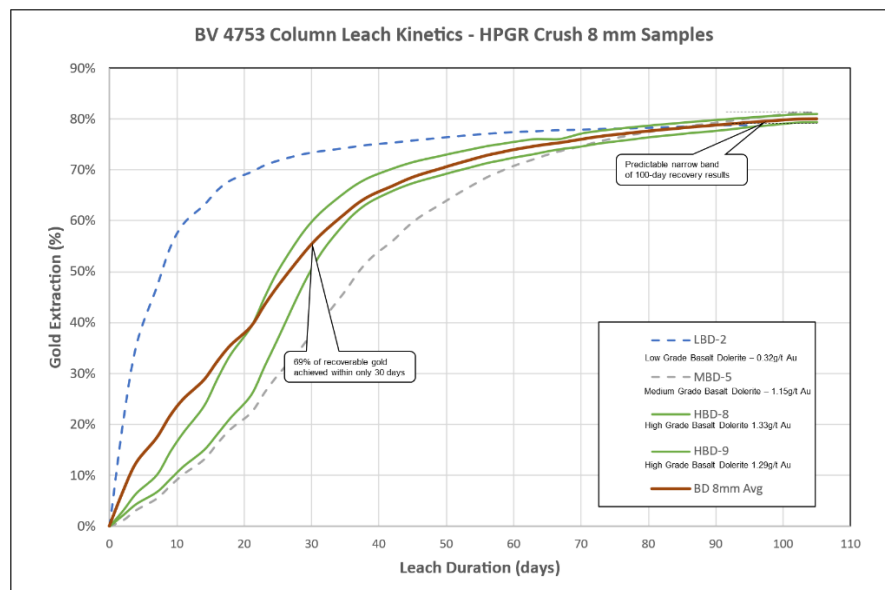

Figure 1 – Column Leach Recovery Test Curves 8mm HPGR – strong leach kinetics – a predictable narrow band of 100-day recovery results.
- Importantly, the HPGR 8 mm P₁₀₀ size column leach recovery curves demonstrate a narrow spread of overall gold extraction results (Figure 1). This is interpreted to represent the low variability and high predictability of the leaching characteristics of Apollo Hill mineralisation. This facilitates simple and cost-efficient production scheduling in our current development studies.